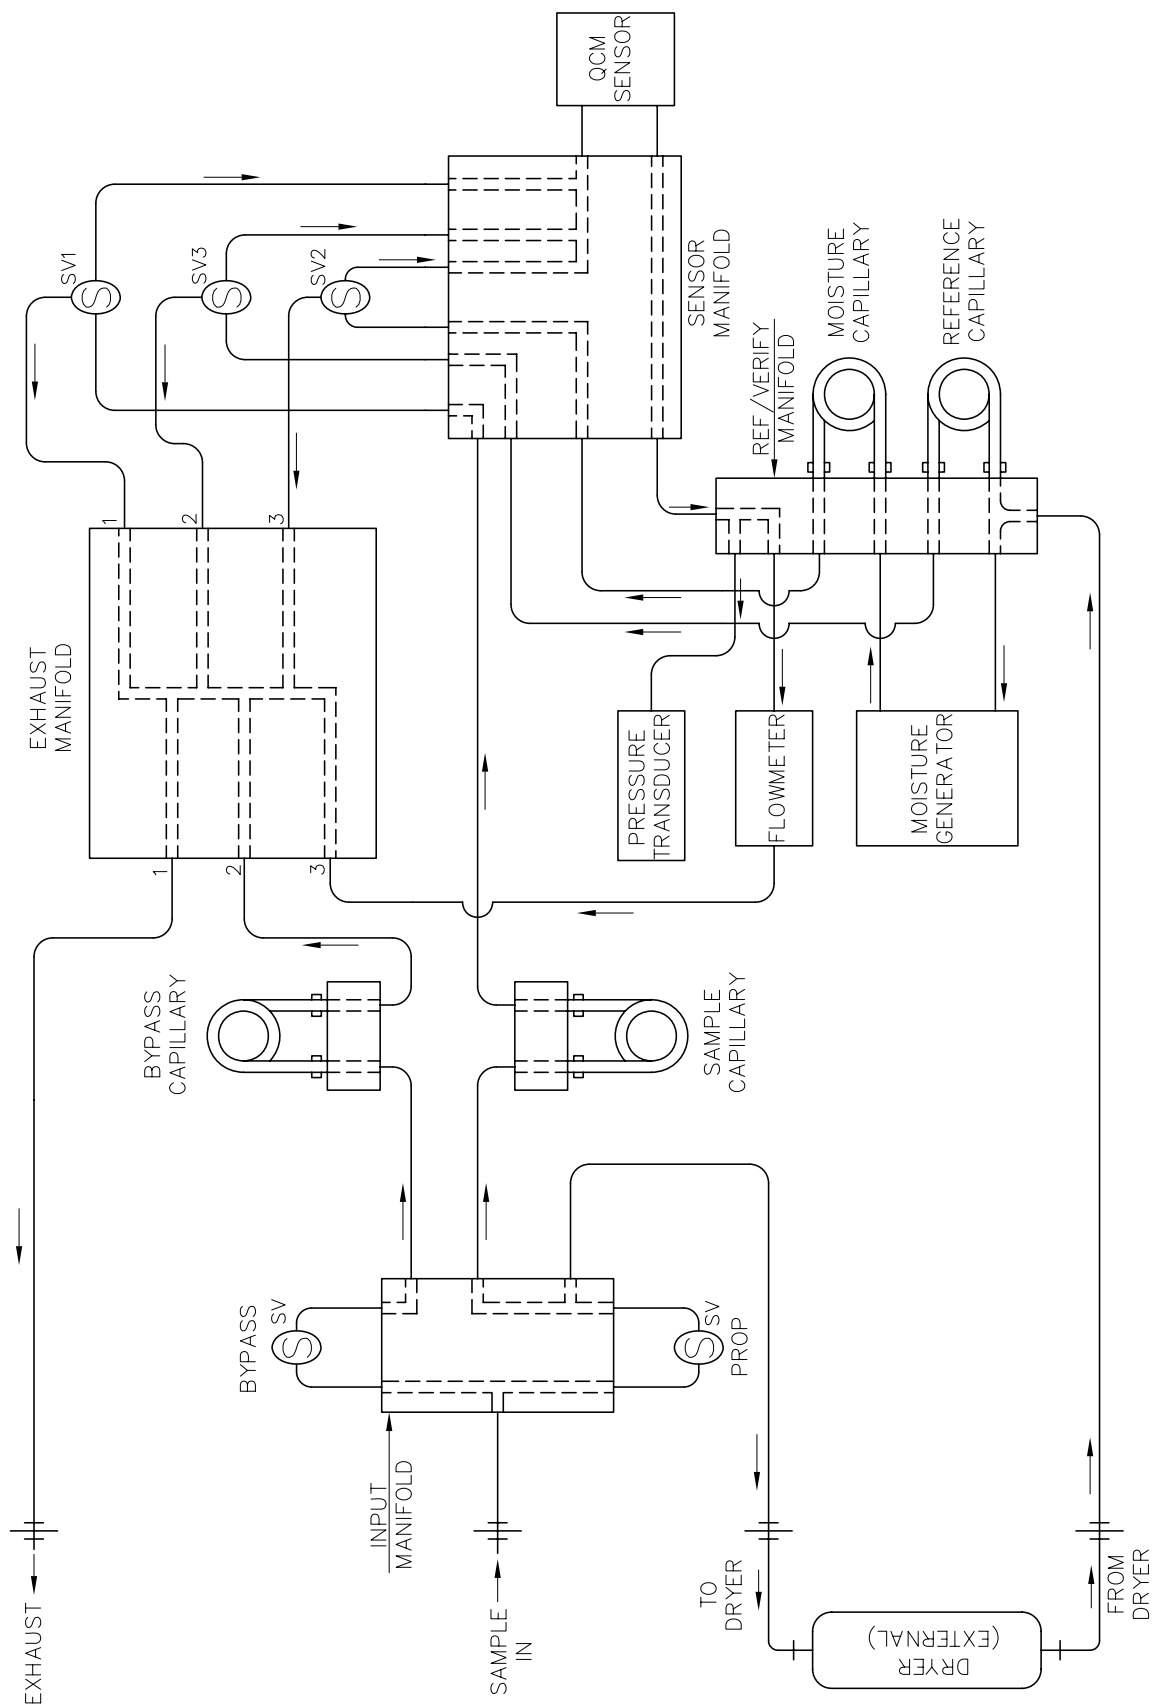

Figure 4-11.
There are four (4) capillaries located in the black box (see Figure 4-11). Only three (3) need to be replaced and they must be replaced as a matched set (AMETEK PN 305431901S); this set includes the Sample, Reference, and Moisture Generator capillaries. If, after replacing the capillaries and allowing the unit to fully warm up (no alarms condition) the flow problem still persists, check the PSV valve and the flow meter.